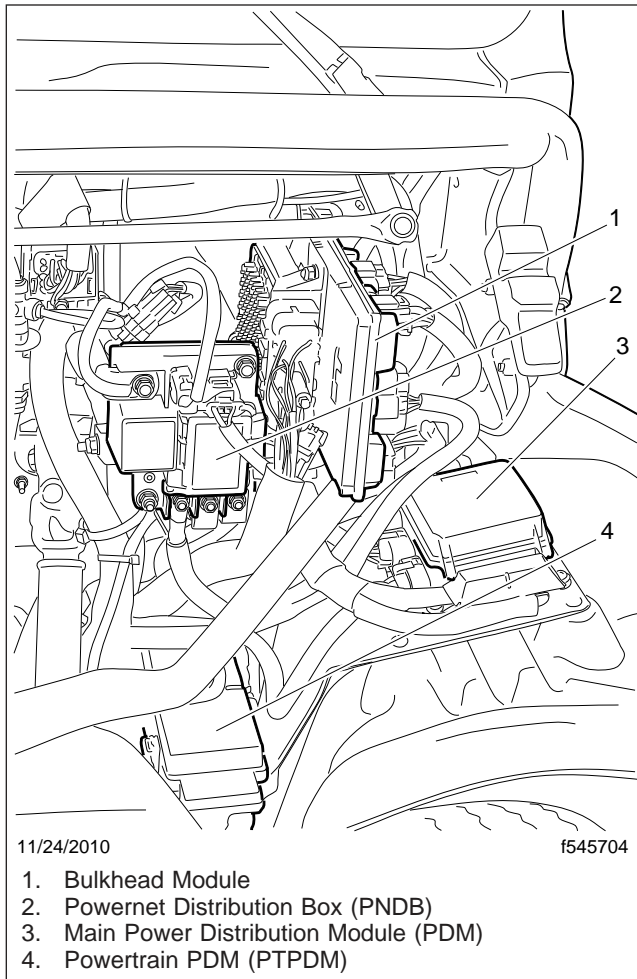

Fig. 21.7, Visible Engine Wiring
6. Inspect visible engine wiring for damage or looseness. See Fig. 21.7.